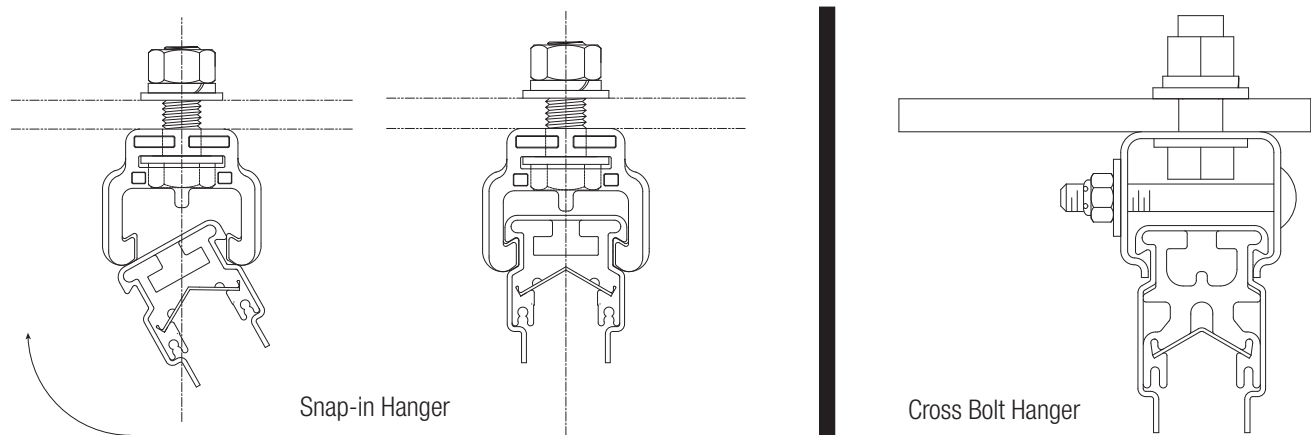

Figure 8-1
8. Insert one lip of the covered bar into the clamp. Firmly rotate bar until it snaps firmly into the other lip clamp. **See Figure 8-1.**